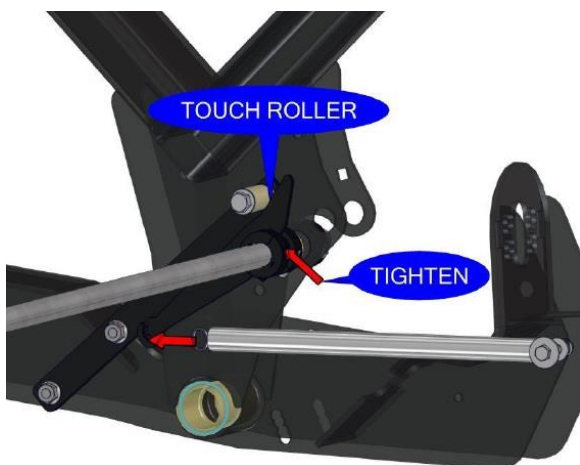

Figure 17
4. Tighten the cap screws on the activation tab collar. Figure 17